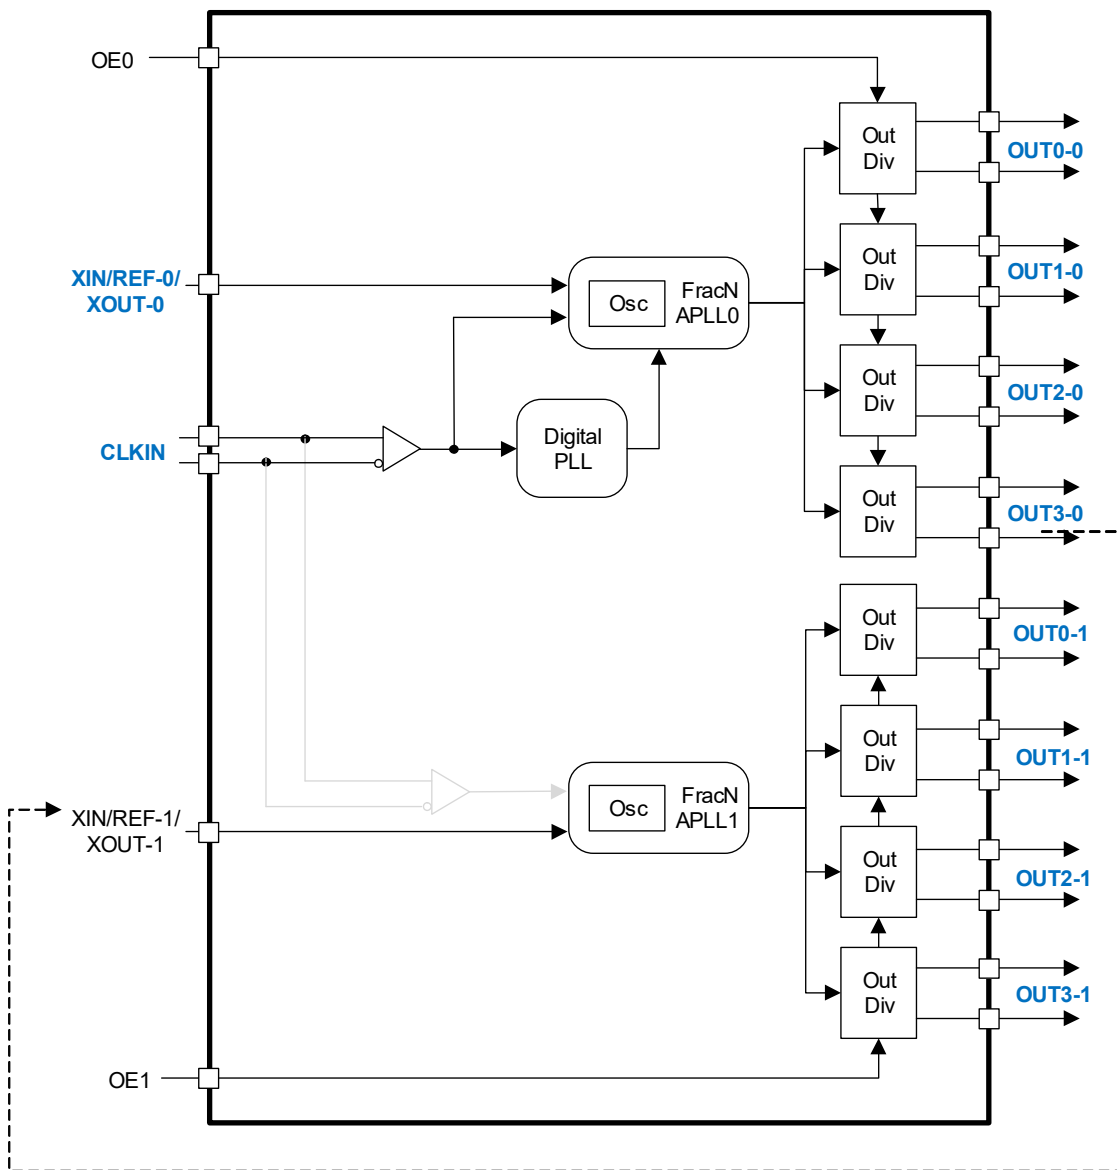

Figure 6. Jitter Attenuator or Synchronizer Mode with RC32508A when External Reference is Fed into CLKIN
| Figure 6. Jitter Attenuator or Synchronizer Mode with RC32508A when External Reference is Fed into CLKIN .. | 9  |
- As shown in Figure 6, up to two frequency domains can be obtained in this configuration and up to seven differential outputs and one LVCMOS output or 15 LVCMOS outputs can be obtained.